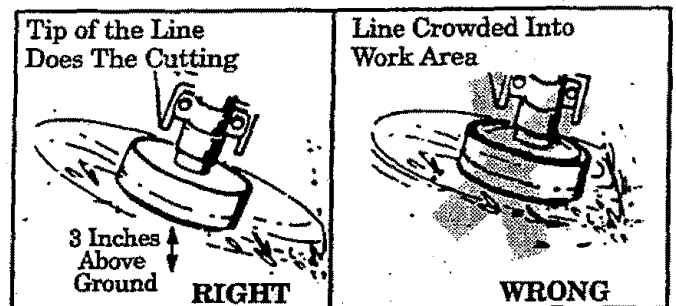

Figure 8
- The tip of the line does the cutting. You will achieve the best performance and minimum line wear by not crowding the line into the cutting area. The right and wrong ways are shown in Figure 8.